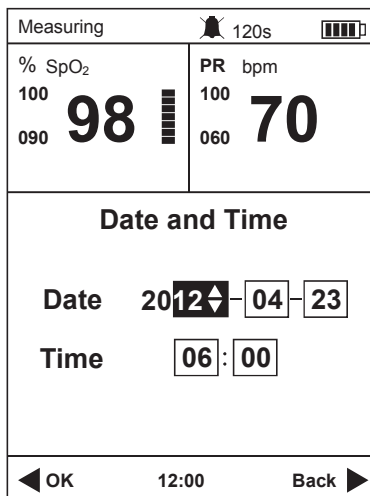

Fig.4-3
- 2) Press the Navigation button to select "Date and Time", and then press the OK button to enter the time setup screen, refer to Fig.4-3.